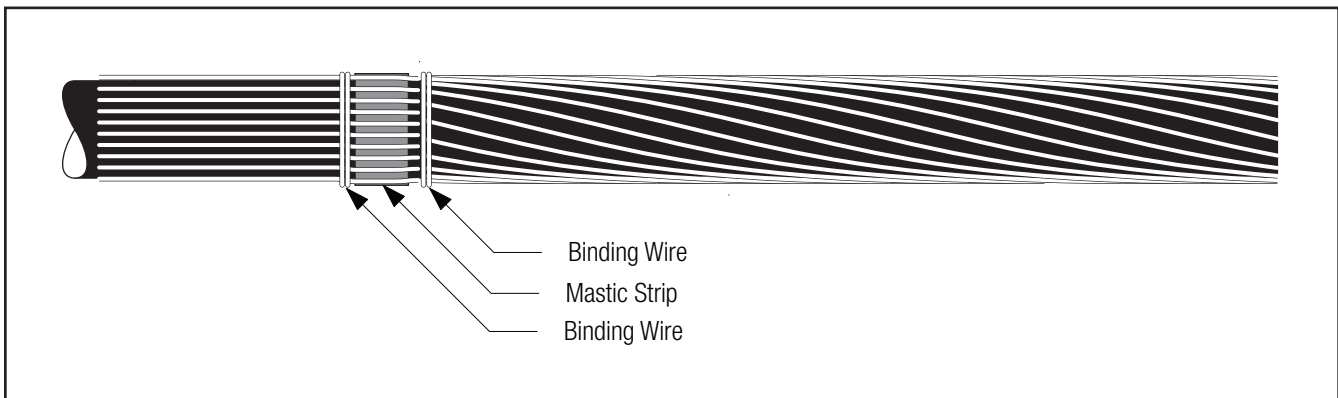

Figure 4
- 2.4.2 Place a strip of mastic around cable semi-con next to neutral binder. Fold neutrals into mastic and place another binder wire on the other side of the mastic (*Figure 4*).